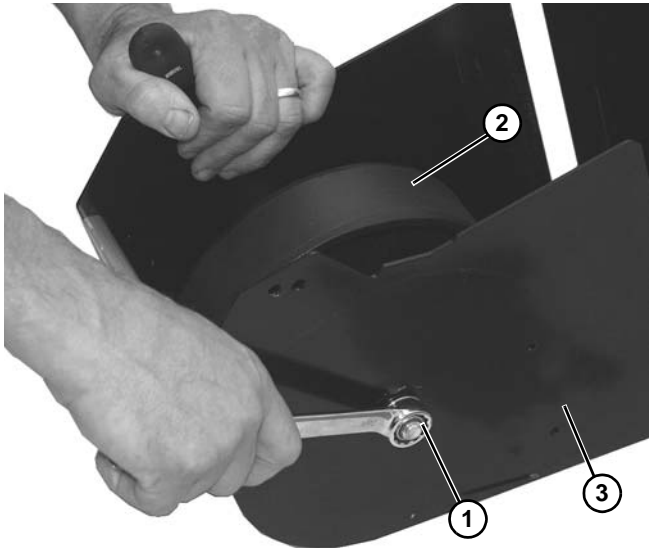

Figure 95
- Use two wrenches to remove nut (Figure 95, item 1) on bolt securing wheel (Figure 95, item 2) onto weighted take up assembly housing (Figure 95, item 3).